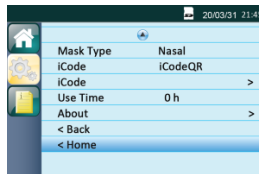

Fig. 13-13
(2) Returning to the Main Interface Move the cursor to the **Home** option by turning **the Knob** , as shown in Fig. 13-13.